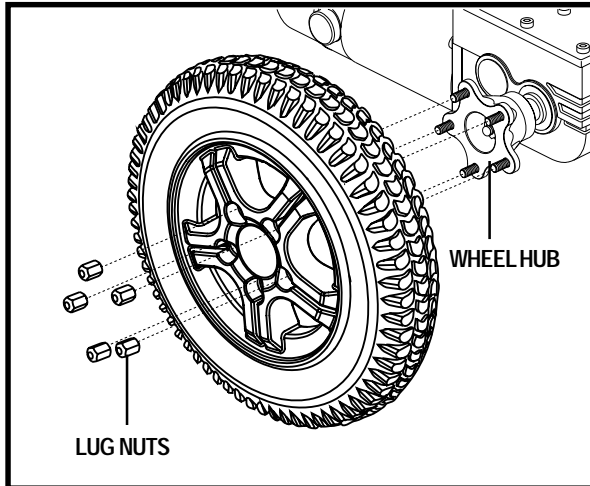

Figure 27. Quantum 6000Z Series Drive Wheel
4. Remove the (5) lug nuts from the wheel hub. See figure 27.